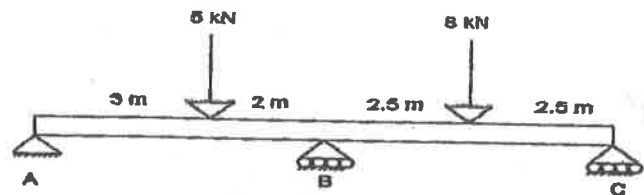

Fig.3
- b) Analyse the continuous beam shown in Fig.3 by flexibility approach. EI is constant throughout.